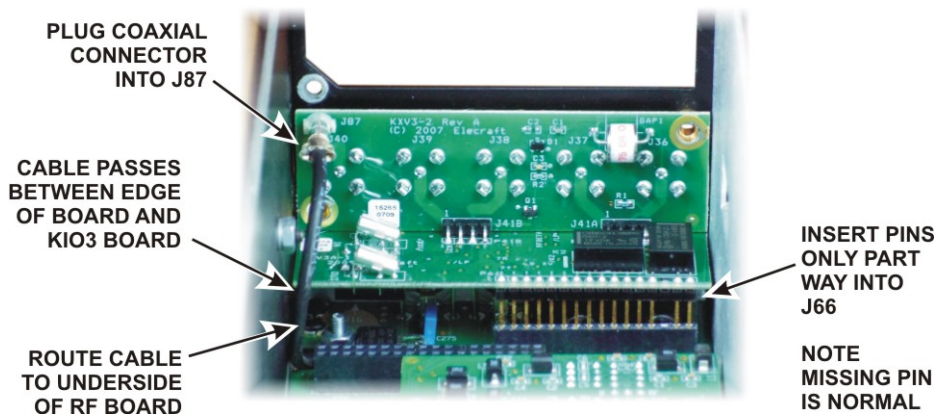

Figure 9. Mounting KXV3A Board.
- ☐ Fit the TMP coaxial connector onto J87 on the KXV3A board assembly (see Figure 9).
- ☐ Thread the square connector on the TMP cable through the gap between Q3 and the side of the RF board, then plug the KXV3A board assembly into J66 on the RF board with the BNC connectors facing out through the rear panel (see Figure 9). The pins will just clear the top of J66 when the BNC connectors are up against the top of the opening in the rear panel.